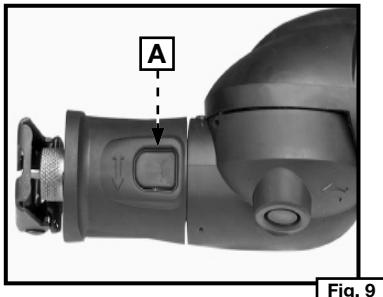
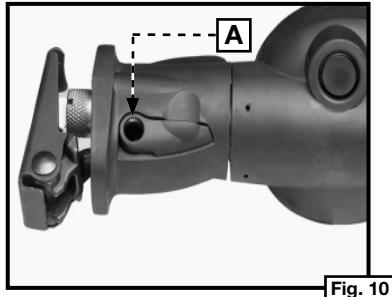

Fig. 9
Fig. 10
To rotate the front scroll housing, depress and hold the lock button (A) Fig. 9. Hold the button depressed while moving the front scroll housing clockwise or counter-clockwise to the desired radial position or angle. Then release the lock button and continue to move the front scroll housing until the lock button snaps into the desired detente position (B) Fig. 10.